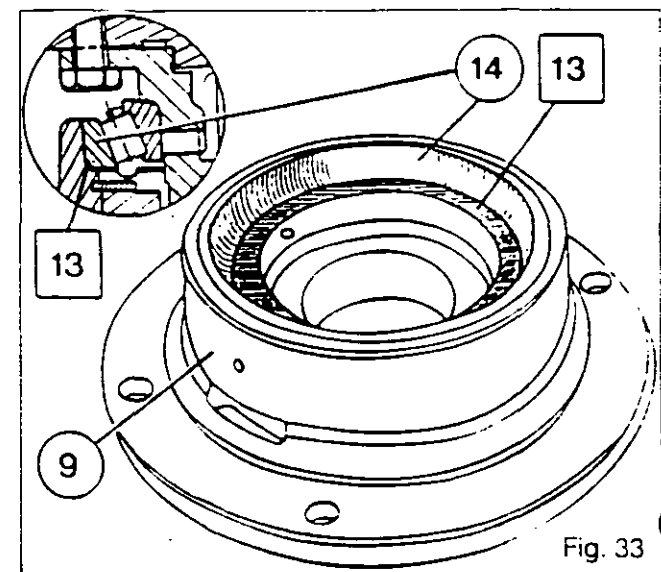

Fig. 33
**Note: Ensure that the deflector is mounted the right way round (Fig. 33).**